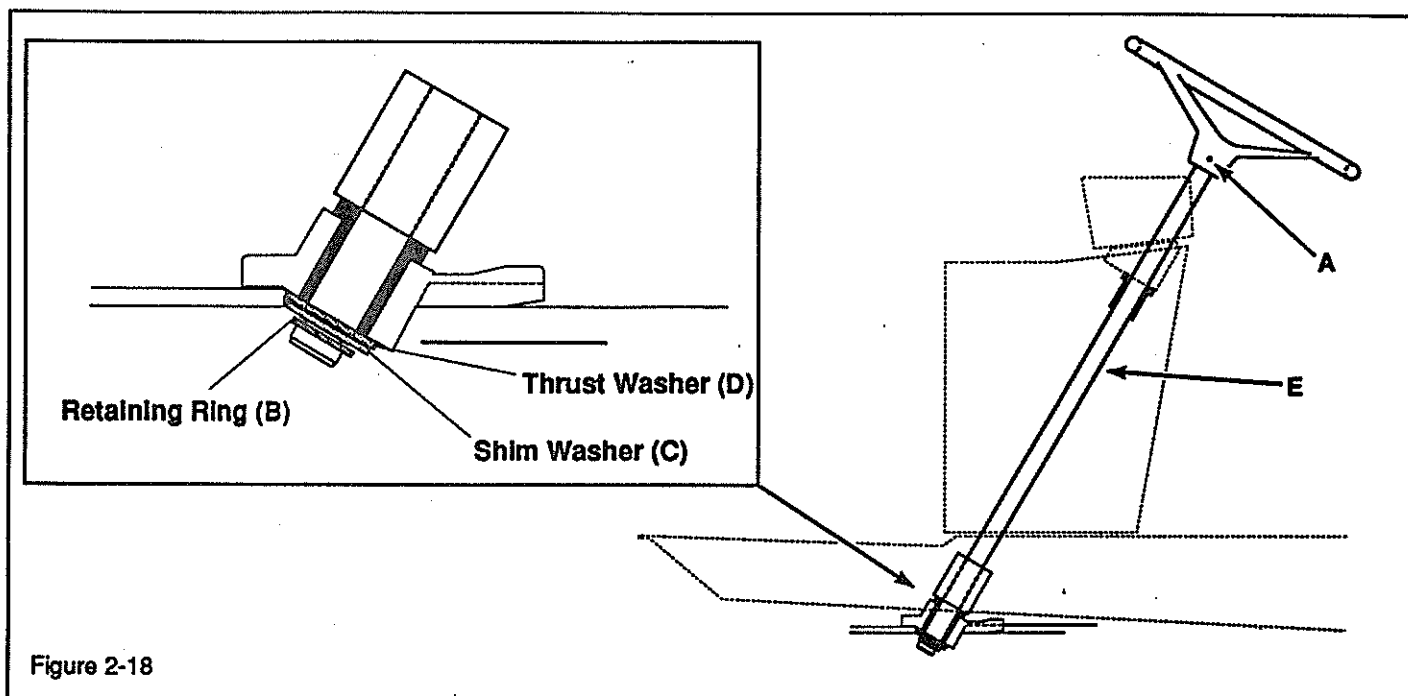

Figure 2-18
- e. Remove steering wheel by removing roll pin (A, Figure 2-18). Save roll pin for re-assembly.
- f. Remove retaining ring (B) from steering shaft (E). This will allow the steering shaft to slide out of the steering support assembly (F). Shim washers (C) and a thrust washer (D) will fall out.
- Slide spindle arm (I) through the sector gear shaft.
- Install retaining ring (E) on sector gear.
- Re-tighten 3/8-16 x 2-1/4 bolt (F) and nut (G).
- Slide steering shaft (E, Figure 2-18) through steering column.
- Install steering wheel onto steering shaft. Secure with roll pin (A, Figure 2-18).